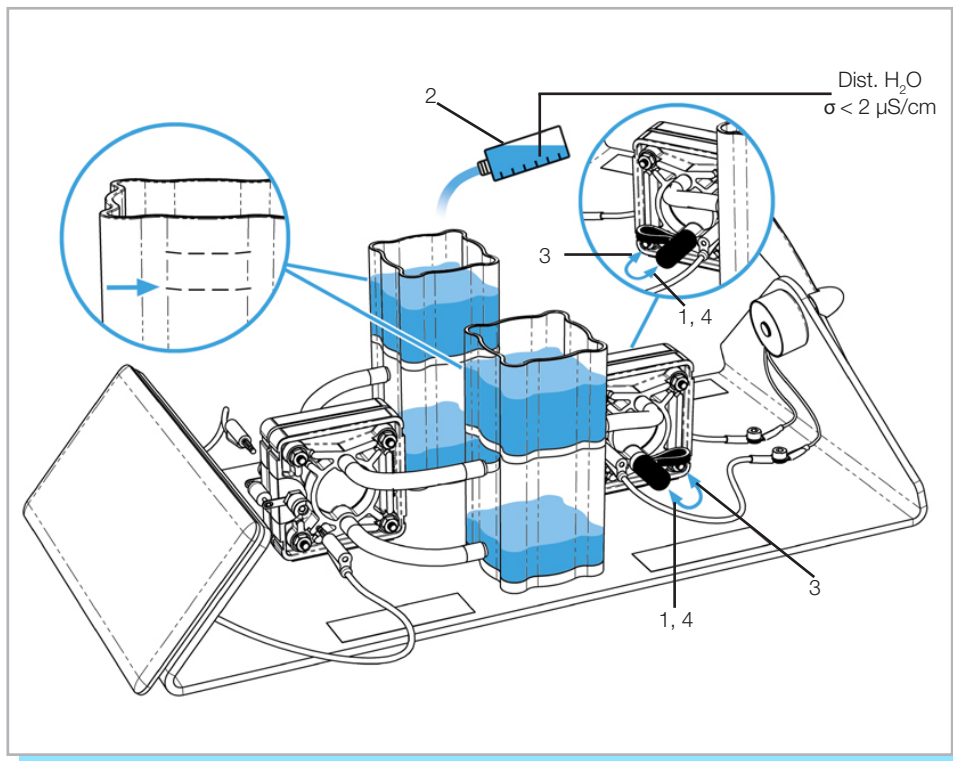

Fig. 4: Filling
- 2. Fill both gas storage tanks up to the lower fill level marking with distilled water ( $\sigma < 2 \mu\text{S/cm}$ ) as shown in Figure 4.